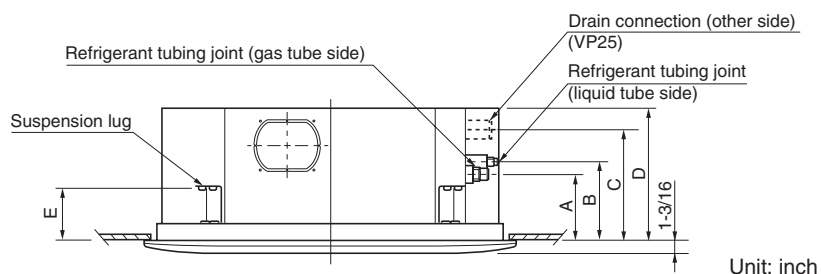

Fig. 1-14
- Determine the pitch of the suspension bolts using the supplied full-scale installation diagram. The diagram and table (Fig. 1-14 and Table 1-5) show the relationship between the positions of the suspension fitting, the unit, and the panel.